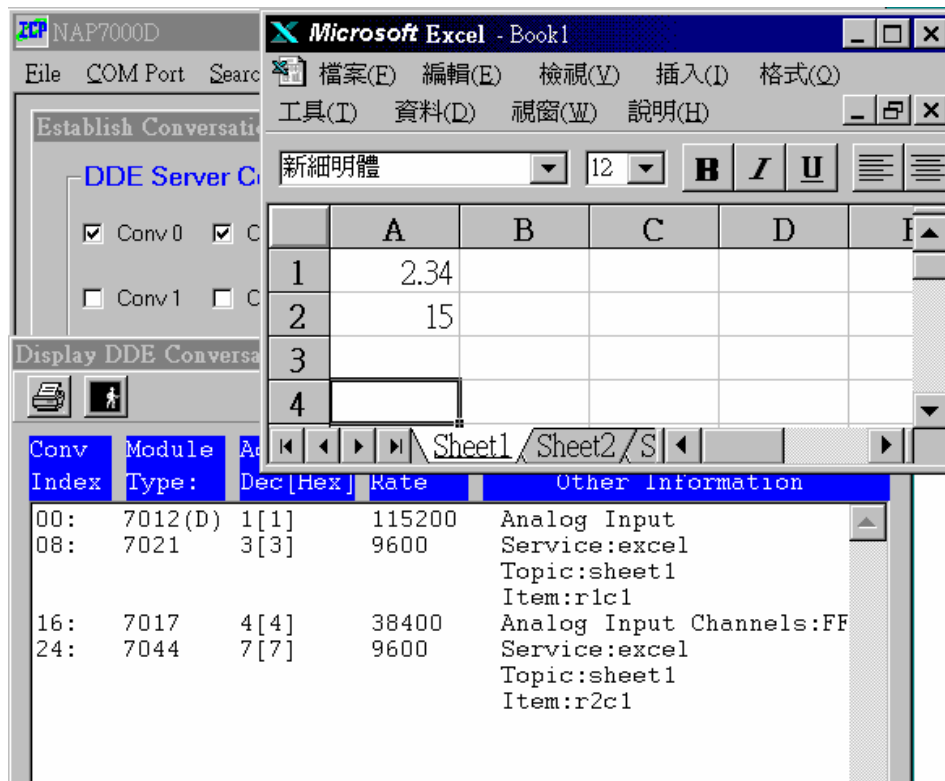

Fig 3-18.
Step 2: Activating Excel. Then entering a value in A1 and A2 cell. For examples, 2.34 in A1. It means the analog output voltage of CB-7021 will be 2.34V. Then typing 15 in A2. It means the digital output value of CB-7044 is F[hex]. Please referring Fig 3-18.